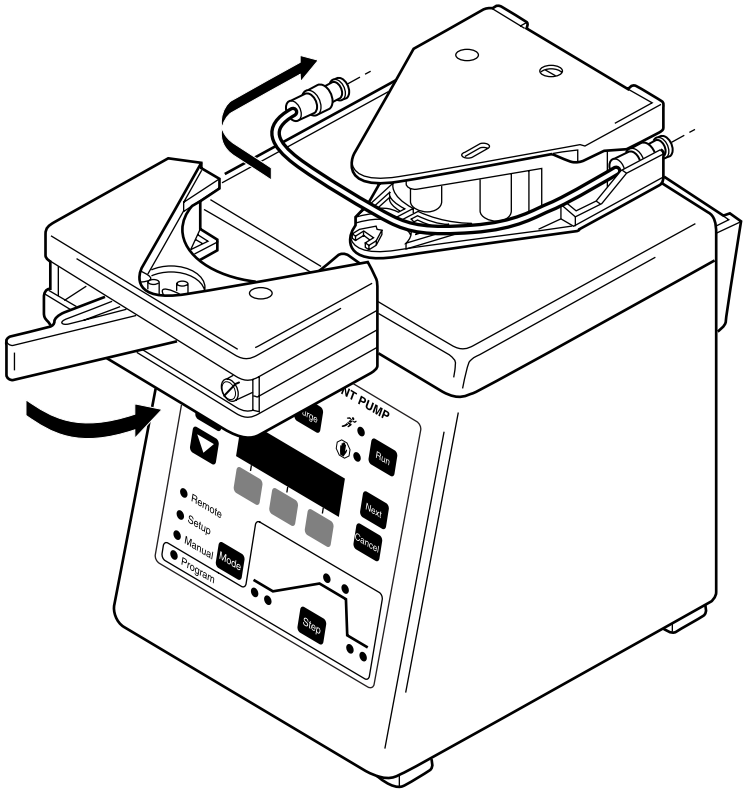

Figure 4-2. Tubing installation.
1. Referring to Figure 4-2, pull the platen cam lever away from the pump head to unlock the platen and slide the platen away from the pump head frame assembly, exposing the rollers.